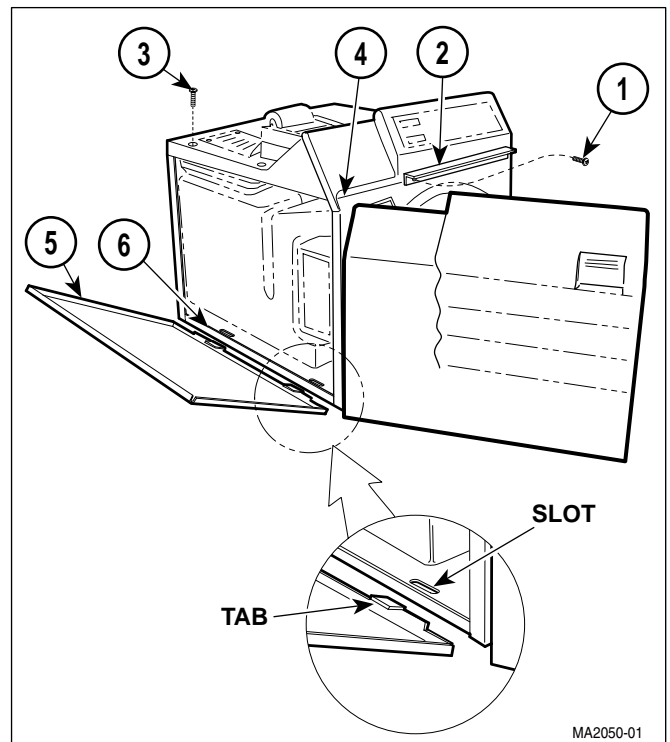

Figure 4-3. Left Hand Side Panel Removal / Installation
- (1) Disconnect power cord from the outlet.
- (2) Open sterilizer door.
- (3) Remove left screw (1, Figure 4-3) from steam block (2).
- (4) Remove two screws (3) from top cover (4).
- (5) Lift up the left hand corner of top cover (4), pull outward and down on the top edge of the left hand side panel (5), and remove left hand side panel from sterilizer.